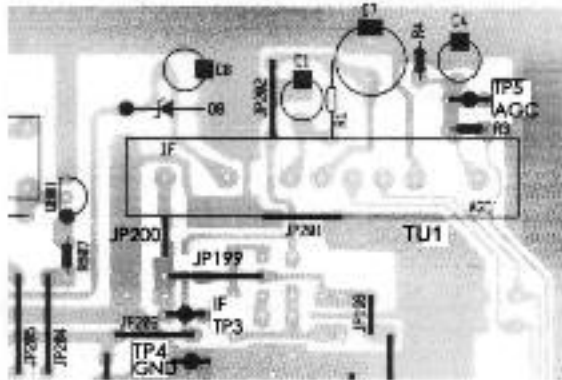

FIG. 1
1. Remove JP200. (See Figure 1 for positioning)